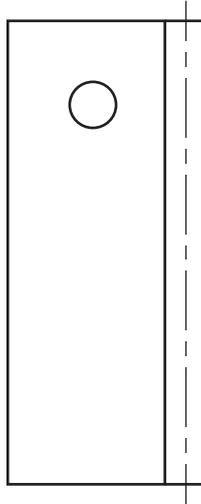

Fig. 11.4
- (i) Complete Fig. 11.4 to show a butt hinge.